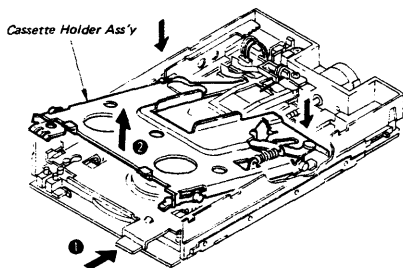

Fig. 4-6 Cassette Holder Ass'y Replacement
- d. Be careful not to apply the excessive force to the head carriage ass'y. While pushing the eject lever, take the Cassette Holder Ass'y. (Refer to Fig. 4-6)
- a. Insert carefully the Cassette Holder Ass'y underneath the arm of the head carriage ass'y, then set the holder into the location shown by arrow as shown in Fig. 4-6, while pushing the eject lever.